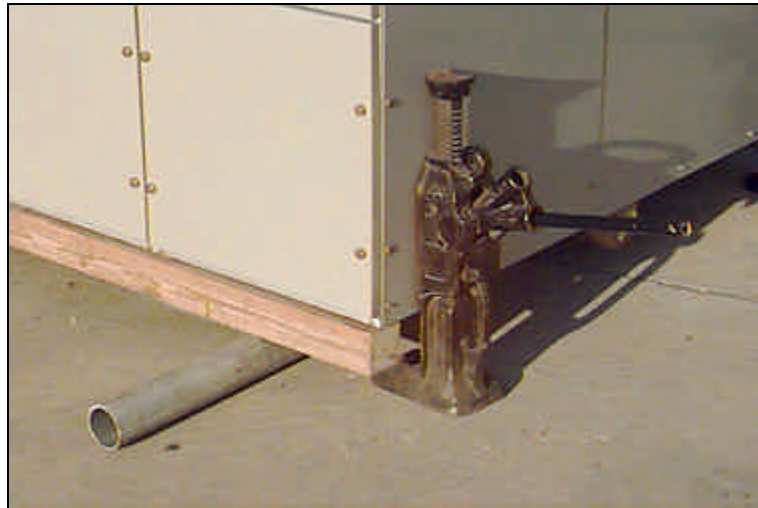

Figure 2. Raise the unit enough to position a roller under the shipping base.
2. Raise the unit enough to position a roller under the shipping base. Repeat the operation at the other end. See Figure 2